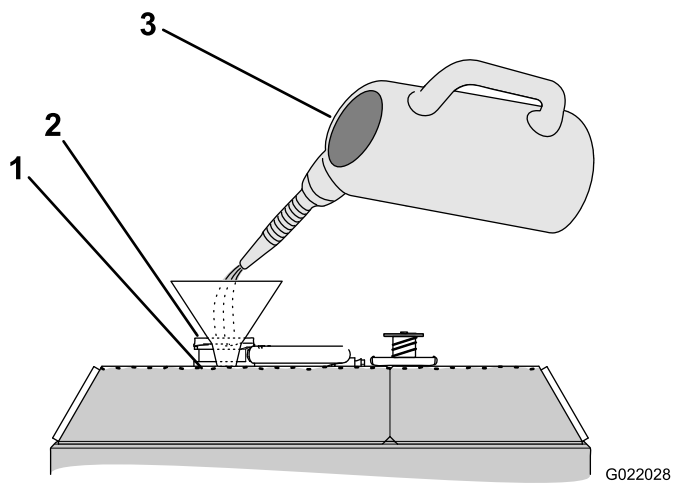

Figure 105
3. Fill the radiator with coolant until the fluid level is up to the bottom of the filler neck (Figure 105).